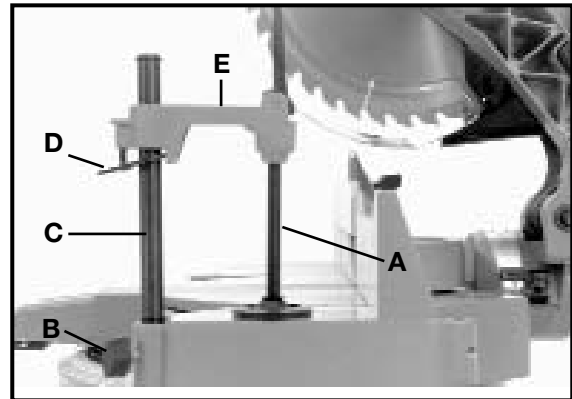

Fig. 20
1. The height of the work clamp (A) Fig. 20, can be adjusted by loosening lock knob (B) and moving post (C) up or down, or depressing lock lever (D) and sliding clamp body (E) up or down. After height of clamp (A) is adjusted, tighten lock knob (B) and/or release lock lever (D).